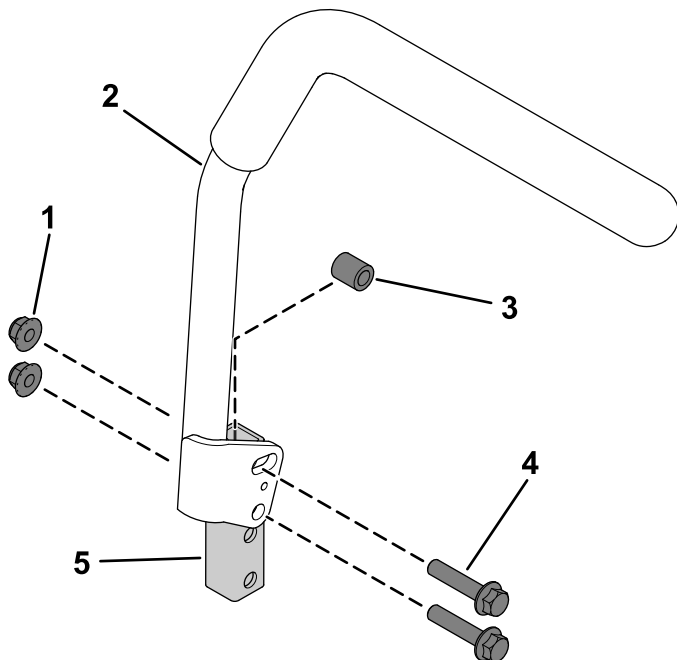

Figure 2
2. Loosely secure the handle extension to the motion-control lever using 2 flange-head bolts (3/8 x 1-3/4 inches), 1 spacer, and 2 locknuts (3/8 inch) as shown in Figure 2.